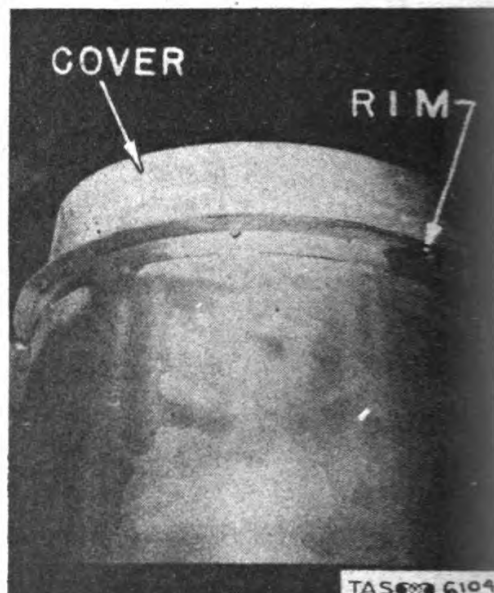

Fig. 104. Furnace Cover.
3. Remove all bolts from rim of furnace cover. (See fig. 104.)